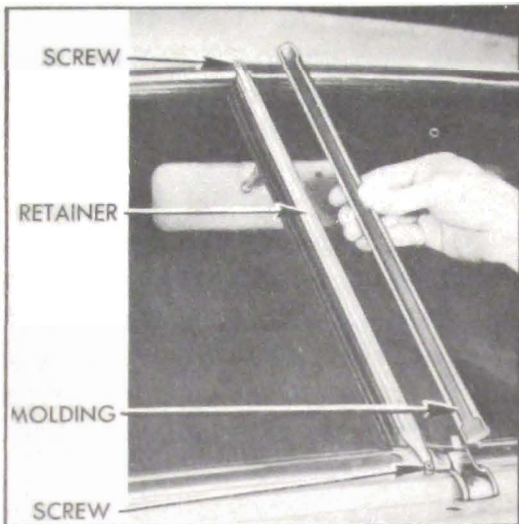

Figure 13-31—Removal of Center Division Outer Molding and Retainer—1949 Series 50-70
The chrome reveal molding which covers the glass channel on the outside is of 4-piece construction with the upper sections telescoping under the lower sections to form square outer corners. The molding is attached by clips to retainers which straddle the pinch-weld flange of windshield opening. The center division outer molding snaps over a center division reveal molding retainer which is held in place by a screw at each end. See figure 13-31.
4. Remove screws at upper and lower ends of center division molding retainer and remove retainer. See figure 13-31. NOTE: In some cases this operation must be done after removal of reveal molding, because of interference.